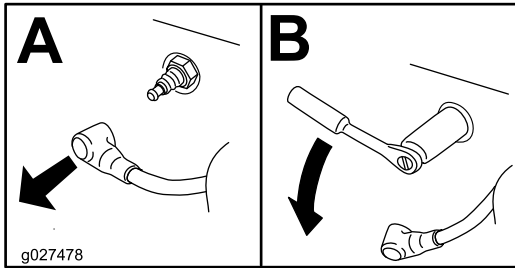

Figure 43
4. Locate and remove the spark plug(s) as shown in Figure 43.